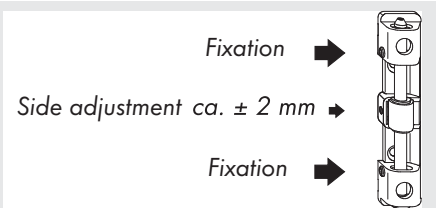

Fig. 2
- A** Mounting the sash. Push the top hinge pin (266) from below into the top hinge (267). Ensure that the top hinge pin (266) engages.
- B** Secure top hinge pin (266) with the grub screws of the top hinge (267) (hexagon screwdriver SW 2.5), see fig. 2.
- D** Attach cover cap S7 (265) to top hinge (267).